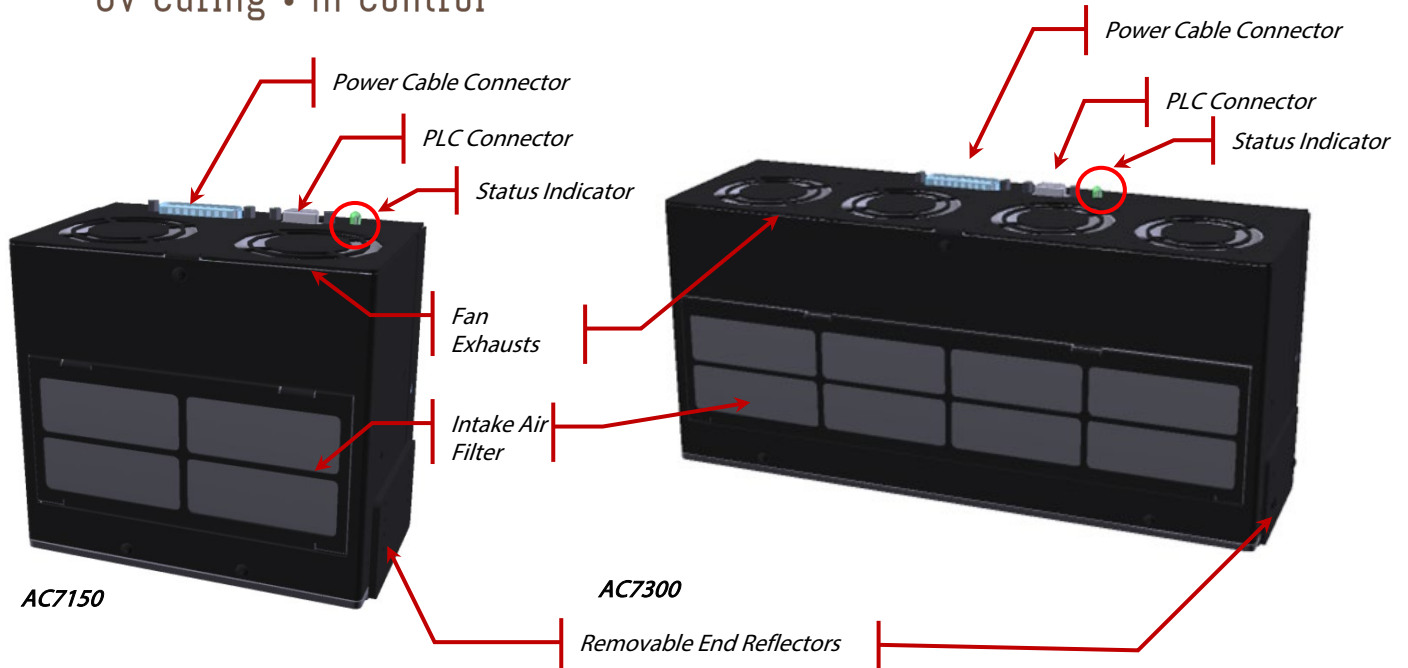
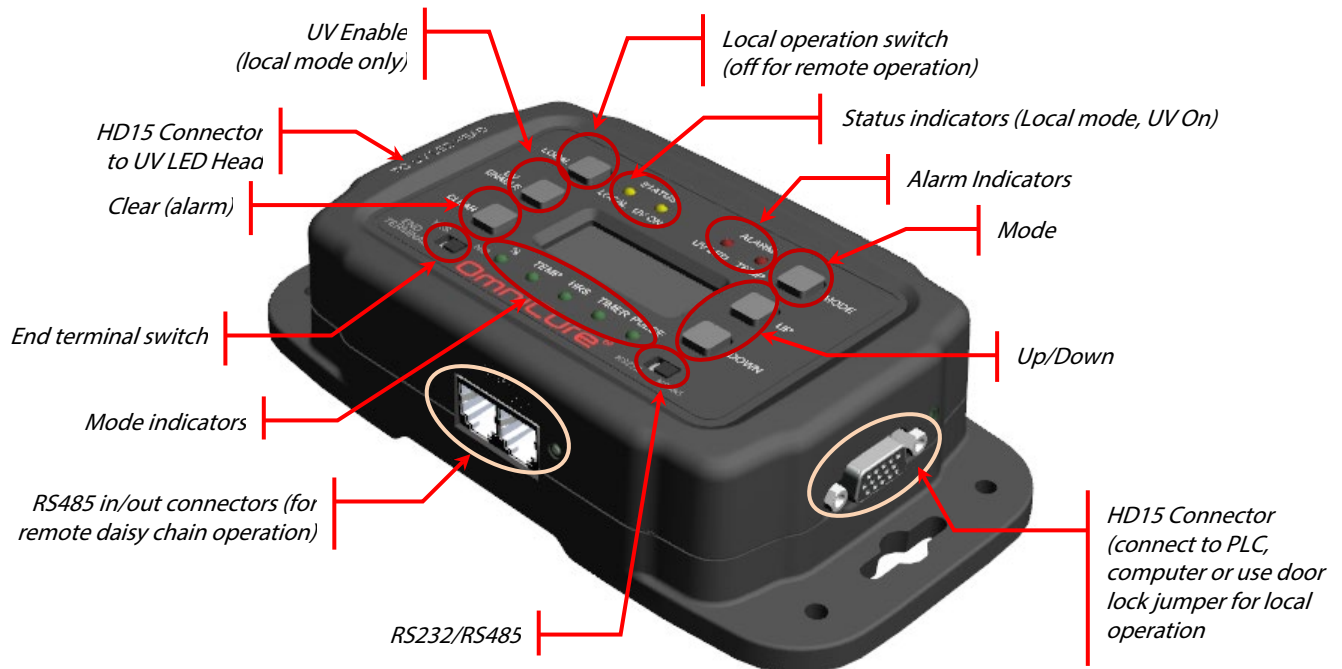

Figure 1 UV LED Head Connection Ports (additional features annotated)
Figure 2 PLC Console (PLC2000 Remote Control Console shown)
3. Attach the male end of the power cable to the power supply unit, and connect the female end of the power cable to the UV LED Head per Figure 1
4. Attach the female end of the PLC cable to the PLC I/O connector on the PLC2000 (see Figure 2) and the male end of the PLC cable to the UV LED Head (see Figure 1).
5. Connect the PLC loop-back connector to the PLC pass-through port. Refer to Figure 2.
7. Adjust intensity using the up or down buttons to the right of the display (see Figure 2), to increase and decrease the intensity respectively. Refer to Section 6, "Using the LED Head".
8. UV LED & Temperature faults will be indicated by an illuminated LED on the control console. To clear, press the Clear Fault button (see Figure 2).
To improve the longitudinal uniformity at the ends of the UV light line, the AC7- series products are equipped with adjustable end reflectors (see Figure 1). These reflectors can be lowered in 10mm increments and can provide about 15mm of extended useful length when fully extended to 30mm working distance. They may also be useful in providing additional operator shielding of UV light.